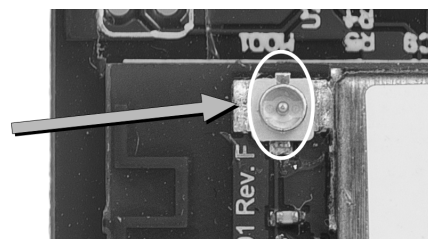

Figure 2 - u.FL Terminal
1. Connect the u.FL end of the antenna cable to the u.FL terminal on the DIM10-087-06. (see Figures 2 and 3)